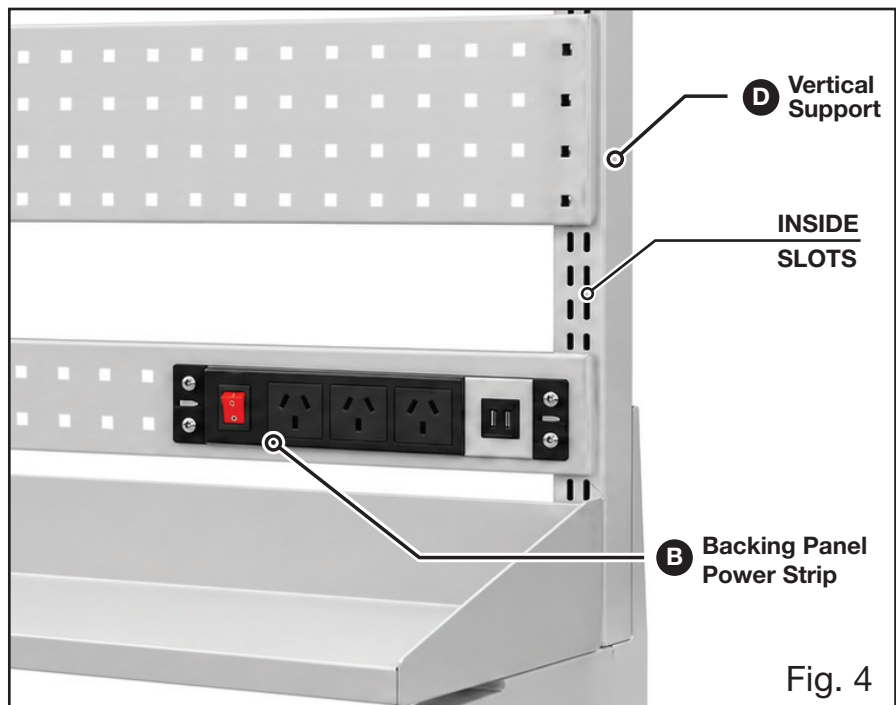

Fig. 4
Insert 1x **(B) Backing Panel – Power Strip** & 1x **(G) Backing Panel Rail** into the inside mounting slots of 3x **(D) Vertical Supports**, ensuring the panel is correctly aligned and securely engaged, as illustrated in Fig. 4.